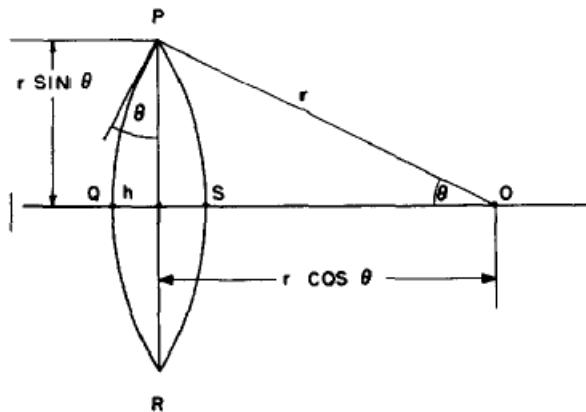

Figure 8: The nucleus at the grain boundary. Image from [1955Clem].
Non-spherical particles have been considered for grain boundary (GB) precipitation. Three morphologies are implemented for grain boundary, grain edge and grain corner precipitation, respectively, as shown in Figure 7. The parameter that defines the deviation from spherical shape is wetting angle (or dihedral angle), θ , as described in Figure 8 and taken from Clemm and Fisher [1955Cle].
The radius r defined in previous equations is the curvature of the precipitate surface (the Big radius) as shown in Figure 8. It is exactly the definition in the growth rate whose coarsening consideration relates to the curvature effect. Therefore, the growth rate equation can be directly used with r being defined here. Again, for bulk, spherical precipitation it automatically corresponds to the particle radius.
For example, the size of the precipitate at grain boundary (two-grain junction) is the radius of the lens shown in Figure 8.